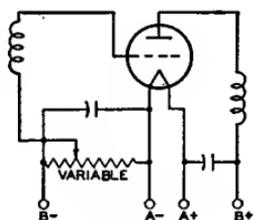
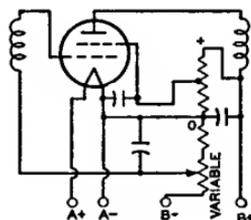

Fig. 69
Fig. 71
**Grid-bias variation** for the rf and if amplifier stages is a convenient and frequently used method for controlling receiver volume. The variable voltage supplied to the grid may be obtained: (1) from a variable cathode resistor as shown in Figs. 69 and 70; (2) from a bleeder circuit by means of a potentiometer as shown in Fig. 71; or (3) from a bleeder circuit in which the bleeder current is varied by a tube used for automatic volume control. The latter circuit is shown in Fig. 53.